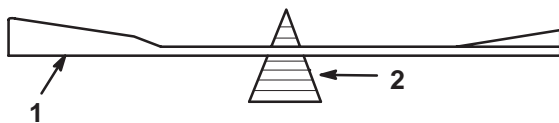

Figure 37
2. Check the balance of the blade by putting it on a blade balancer (Fig. 37). If the blade stays in a horizontal position, the blade is balanced and can be used. If the blade is not balanced, file some metal off of the back side of the blade. Repeat this procedure until the blade is balanced.